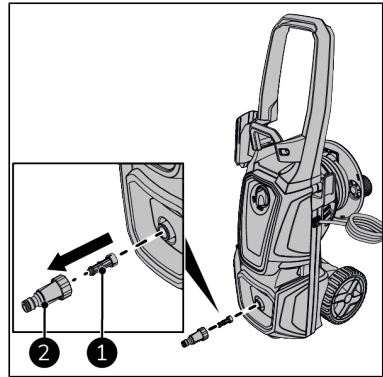

Figure 40.
3. Unscrew the garden hose coupling (Figure 40, pos. 2).
4. Pull out the filter (Figure 40, pos. 1).